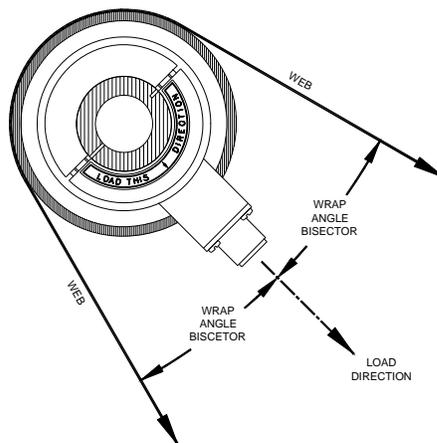

Figure 13 - Proper Orientation of the Cartridge Transducer
<p>Stud (S)</p>	<ol style="list-style-type: none"> <li>Before tightening the mounting bolt, rotate the transducer body until the force direction (indicated by the arrow on the label) is aligned with the vector of the web force. The vector of the web force is the bisector of the wrap angle. Refer to Figure 13.</li> </ol> <hr/> <ul style="list-style-type: none"> <li> Rolls often have an uninterrupted shaft that extends to form the journals. Though the roll may be described as having a “dead shaft”, neither journal end can rotate independently of the other. Attempting to rotate one transducer, while the other end of the roll is clamped can result in damage to the transducer.</li> <li> Make sure that the bolt is not too long so that it bottoms inside the transducer and causes damage.</li> </ul>